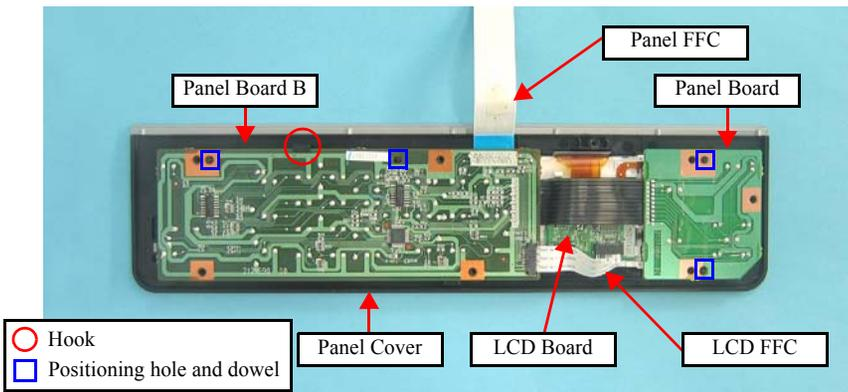

Figure 4-34. Removing the Panel Board/ Panel Board B
- When installing the Panel Board and Panel Board B, make sure to match the positioning holes (x4) with their positioning pins of the Panel Cover as shown in **Figure 4-34**.